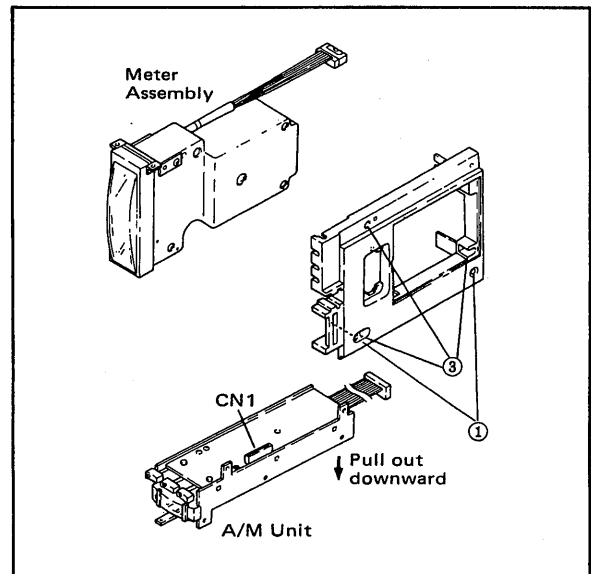
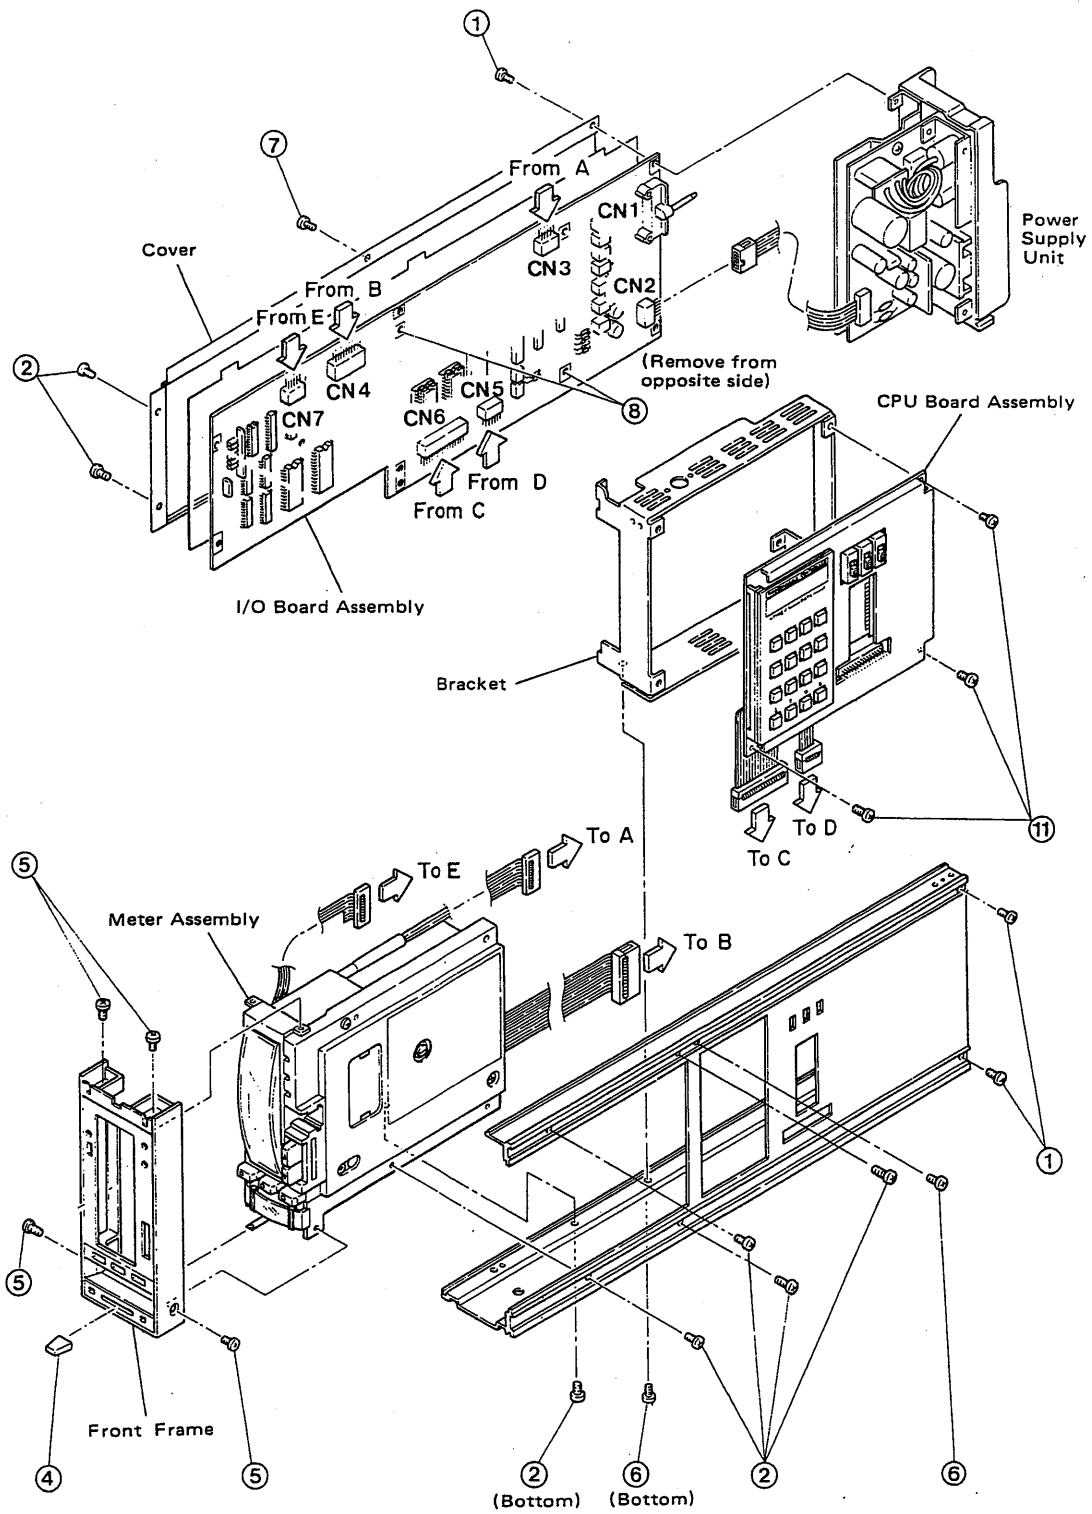

Figure 7-2-2. Disassembling Display Unit.
Figure 7-2-3. Disassembling Main Unit.
- (1) Remove seven screws ② in Figure 7-2-3.
- (2) Remove connectors 3 (CN3, CN4 and CN7).
- (3) Carefully pull the meter assembly out toward the front.
- (1) Extract knob ④ in Figure 7-2-3.
- (2) Remove four screws ⑤ to separate the front frame.
- (3) Pull the A/M unit out downward after removing two screws ① in Figure 7-2-2.
- (4) To separate the meter assembly, remove three screws ③ from the molded section. (The meter assembly in the fluorescent bar graph version can be separated in the same manner.)
- (1) Remove four screws ① in Figure 7-2-3.
- (2) To separate the power supply unit, pull it out toward the rear and remove connector CN2.
- (1) Remove the meter assembly and the power supply unit as instructed in Sections 7-2-1 and 7-2-3.
- (2) Separate the I/O board assembly from the chassis by removing two screws ⑥ in Figure 7-2-3.
- (3) Remove two screws ⑦ and open the cover to expose screw ⑧ (on opposite side in the figure).
- (4) Remove two screws ⑧ from the opposite side to open the tuning panel (CPU board assembly).
- (5) Pull out the connectors CN5 and CN6 downward to separate the tuning panel (CPU board assembly).
- (6) To release the tuning panel from the bracket, remove three screws ①.